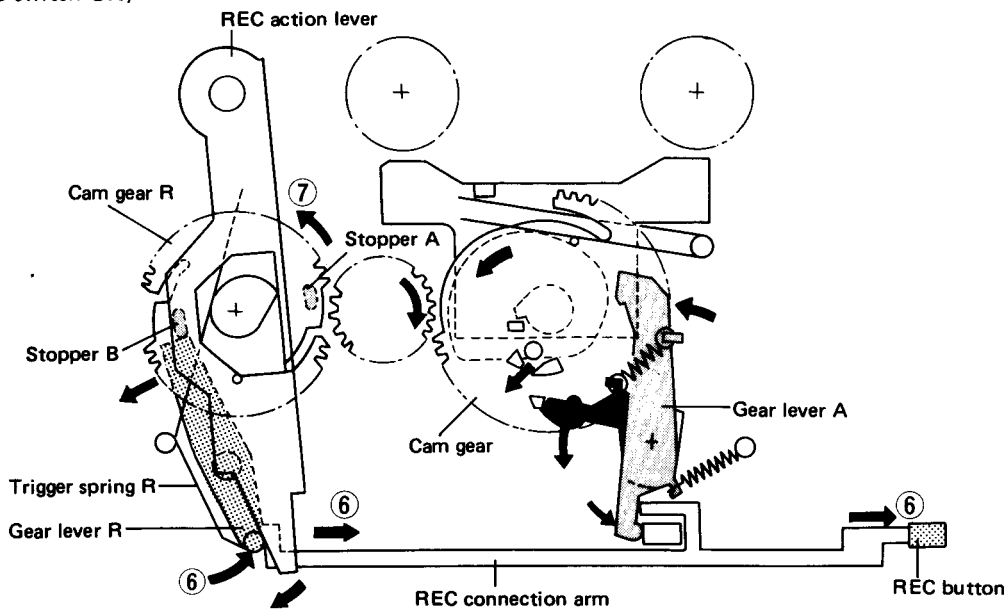

Fig. 13-8 REC → STOP operation
**REC – STOP Mode (Fig. 13-8)**
- When the STOP button is pressed releasing the REC button lock, the trigger spring R returns the REC connection arm and gear lever R in the (6) direction, breaking contact with stopper B on cam gear R.
- The REC action plate return spring rotates cam gear R in the (7) direction, and starts meshing it with the capstan gear.